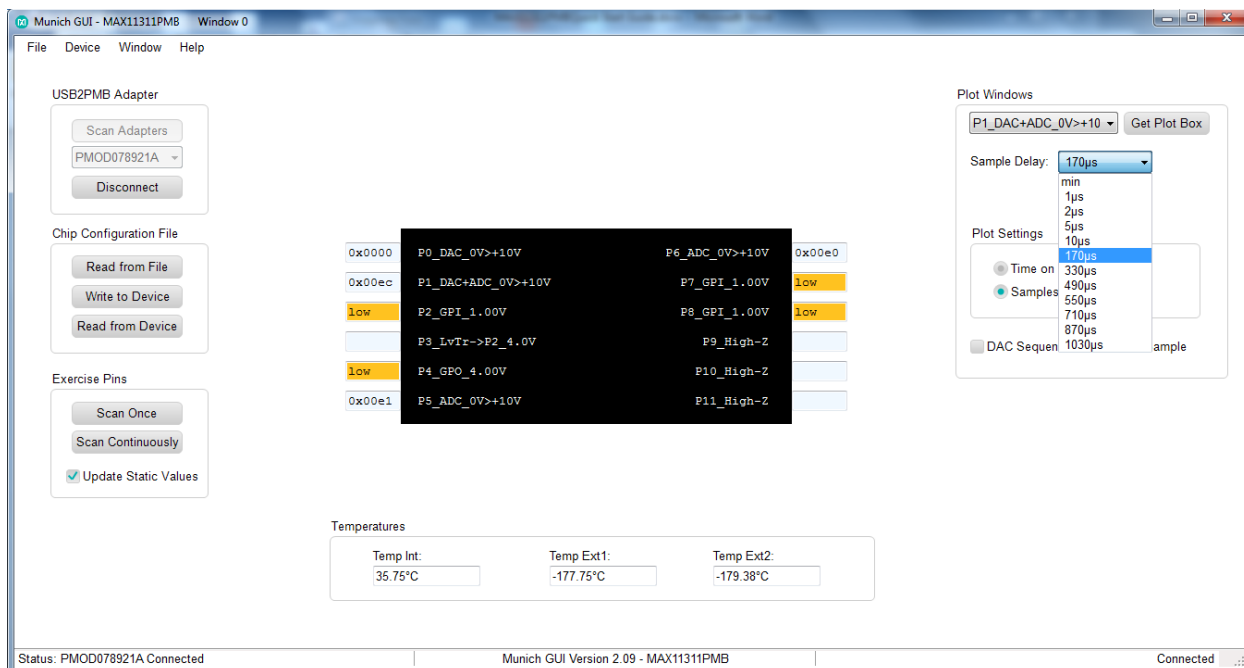

Figure 13. Sample delay drop-down menu.
- c. **Sample Delay:** This drop-down menu allows the user to select up to 1030μs delay. This delay is enabled by the GUI between each complete sequence of ADC read. See **Figure 13**.